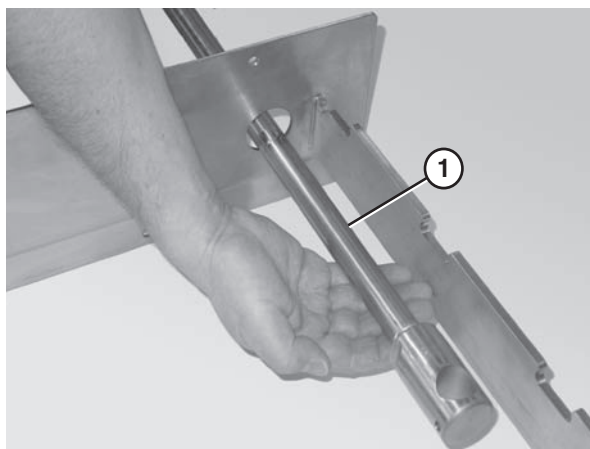

Figure 15
1. Slide the tip up shaft (Figure 15, item 1) through the designated slots in the frame.